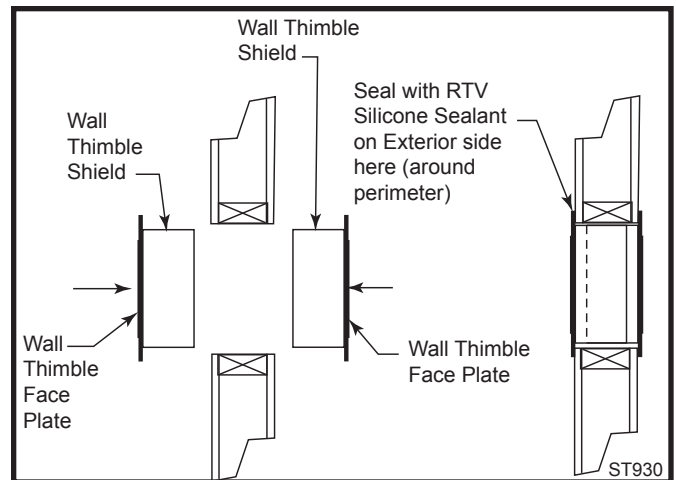

Fig. 40 Wall thimble.
5. If required, install the outside half of the wall thimble (WT) through the opening and screw or nail in place. (Fig. 40) Seal around the perimeter of the thimble face plate on the exterior wall using an RTV silicone sealant to provide protection from possible rain infiltration. (Fig. 40)